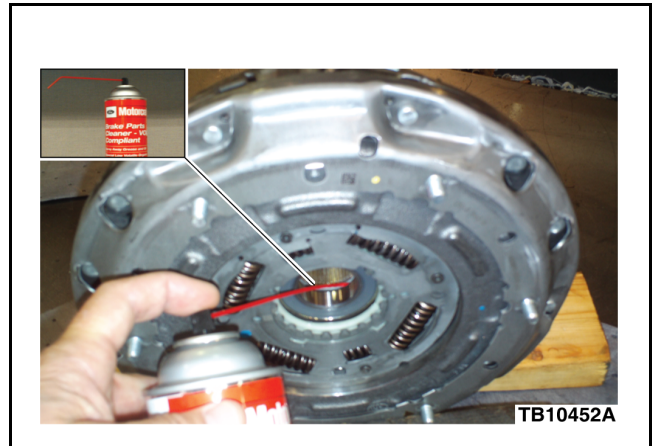

Figure 4 - Article 13-9-4
- (3) Front of clutch two disc. (Figure 4)